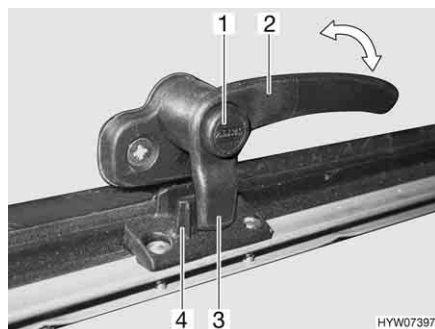
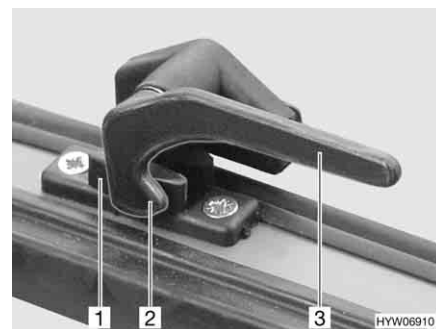

Fig. 66 Catch lever with safety knob in "closed" position
Fig. 67 Catch lever in "closed" position
- Press and hold the security button (Fig. 66,1), if present.
- Turn the catch lever (Fig. 66,2 or Fig. 67,3) a quarter turn towards the centre of the window.
- Turn the catch lever (Fig. 66,2 or Fig. 67,3) a quarter turn towards the window frame. The locking catch (Fig. 66,3 or Fig. 67,2) on the catch lever is entirely on the inner side of the window catch (Fig. 66,4 or Fig. 67,1).
- "Firmly closed" (Fig. 66 and Fig. 67)